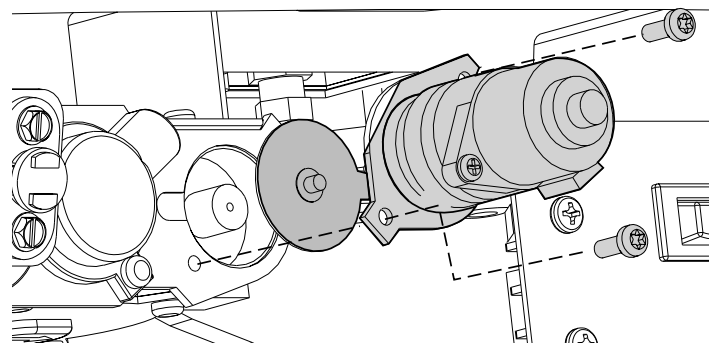

Figure 24. Manual Regulator replacement.
12. **Replace the Valve Regulator.** Using a Torx T-20 screwdriver, remove the two screws from the front of the regulator. Remove the regulator components and replace with the one from the conversion kit. See fig. 24.